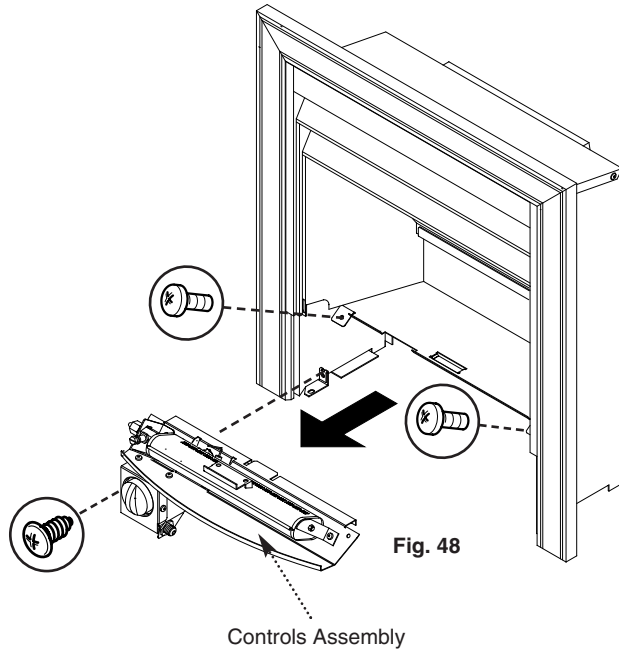

Fig. 48
1. Undo the three retaining screws and remove the controls assembly from the fire combustion box (Fig. 48).